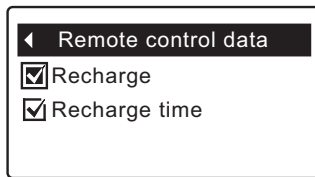

FIG. 72
4. Press the SELECT (○) button to display the Remote control data screen (See Figure 72).